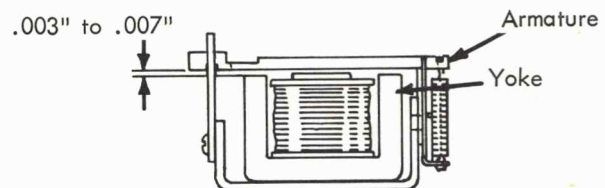

FIGURE 17.3 Armature Stop
3. Armature Stop (Late Style) - With the armature manually attracted, adjust armature stop for a clearance of .003" to .007" between the armature and yoke (Fig. 17.3).